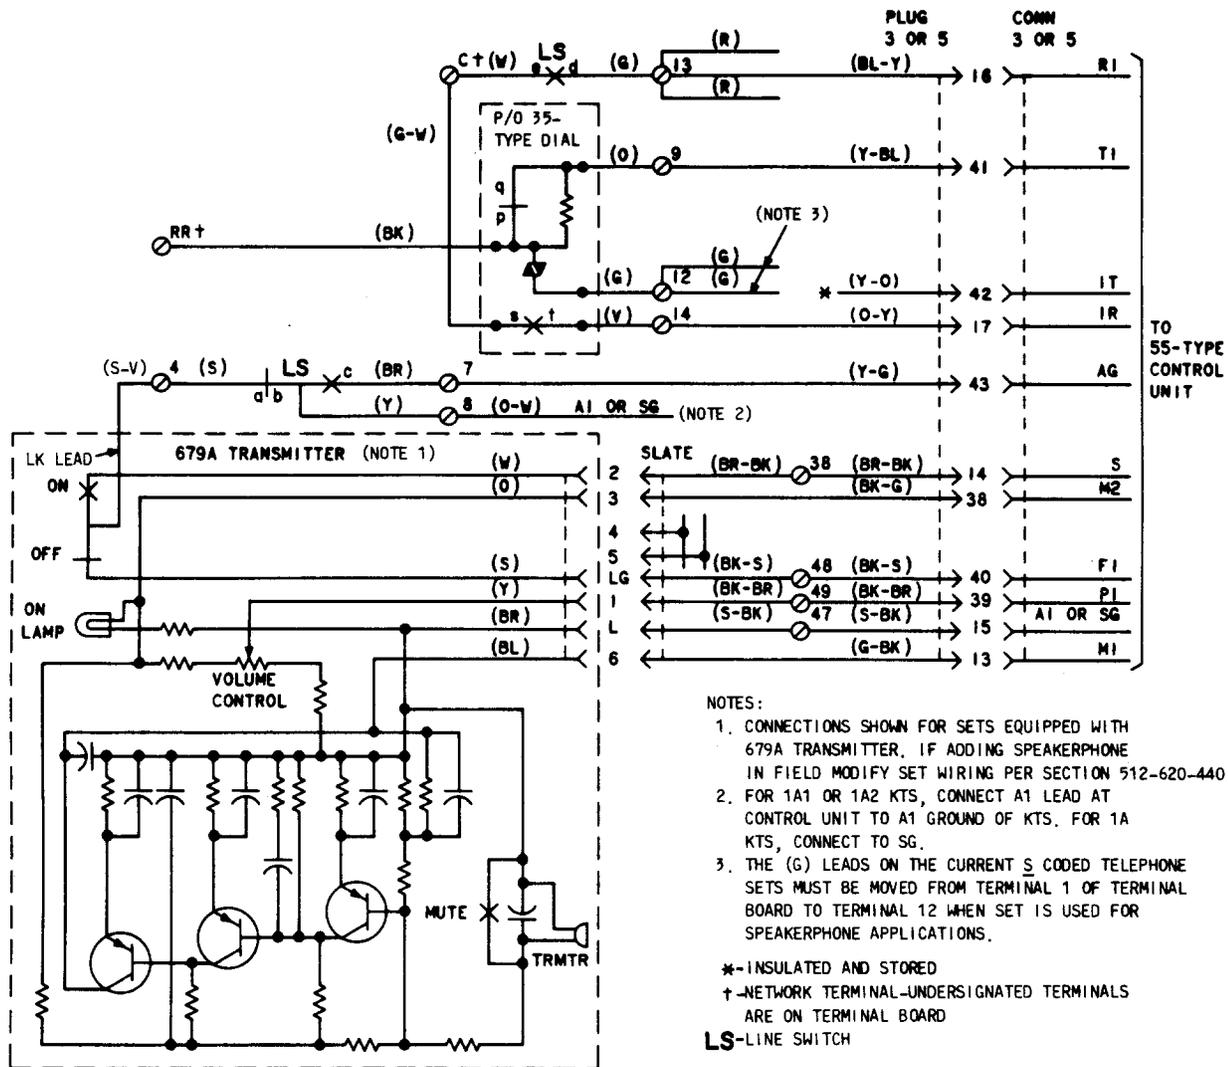

Fig. 5—3-Type (MD) Speakerphone Connections Using Internal 679A (MD) Transmitter
2.10 Sets may be equipped for 3-type (MD) speakerphone by the addition of a 679A (MD) transmitter in the 3rd (2630-type) or 5th (2631-type) module (Fig. 5). Refer to Section 512-620-440 for necessary wiring changes and connections.
2. IN SETS EQUIPPED WITH A 658A KEY THE (G) CONTACT STRIP LEAD IS TERMINATED ON 17 AND (R) ON 18. IF A 658A KEY IS ADDED IN THE FIELD, LEADS MUST BE MOVED FROM PRECEDING MODULE CHAINING CIRCUIT TO TERMINALS 17 AND 18.
5. MODULE MAY ALSO BE EQUIPPED WITH A 679A (MD) INTERNAL TRANSMITTER FOR SPEAKERPHONE. SEE FIG. 5 AND SECTION 512-620-440 FOR WIRING CHANGES.
6. TO SUPPLY "I" HOLD FEATURE TERMINATE (Y-BR) MOUNTING CORD LEAD FROM (O) BINDER GROUP TO TERMINAL 24. LEAD BECOMES SP LEAD AT EQUIPMENT.
7. IF HOLD POSITION LAMP IS REQUIRED CONNECT (G-Y) AND (Y-G) PINK PLUG LAMP LEADS TO THE (G-Y) AND (Y-G) MOUNTING CORD CONDUCTORS USING SPARE TERMINALS OR D-161488 CONNECTORS. LAMP MUST BE SEPARATELY ORDERED AND INSTALLED. HOLD POSITION LAMP CANNOT BE ILLUMINATED WHEN EXTERNAL TRANSMITTER IS WIRED FOR 3-TYPE (MD) SPEAKERPHONE USING MOUNTING CORD LEADS.
8. 3-TYPE (MD) SPEAKERPHONE LEADS WHEN ASSOCIATED WITH EXTERNAL TRANSMITTER.
9. THESE CONTACT STRIPS ARE REQUIRED WHEN TELEPHONE SET IS EQUIPPED WITH THE D120K (MD) OR THE D200S (MD) MOUNTING CORD. THESE CONTACT STRIPS SHOULD NOT BE USED WHEN TELEPHONE SET IS EQUIPPED WITH THE D120M OR D200AA MOUNTING CORD OR WHEN TELEPHONE SET IS EQUIPPED WITH A MODIFIED D120K OR D200S MOUNTING CORD.